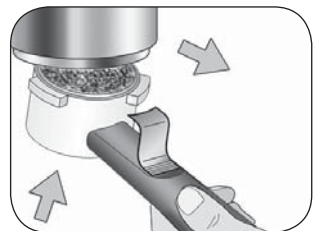

Fig. 16
- 5 After preparing the coffee, when you remove the filter holder, the pod may remain stuck in the top of the appliance. To remove it, tilt the filter holder (Fig. 16) so the pod can fall onto it.